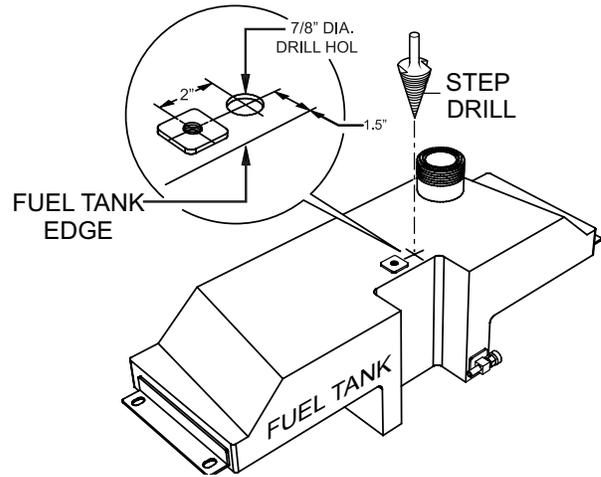

Figure 11. Vent Valve Drill Hole
4. Next, using a step drill or equivalent drill bit, drill a 7/8-inch diameter hole as shown in Figure 11. This hole is necessary for the new vent valve.